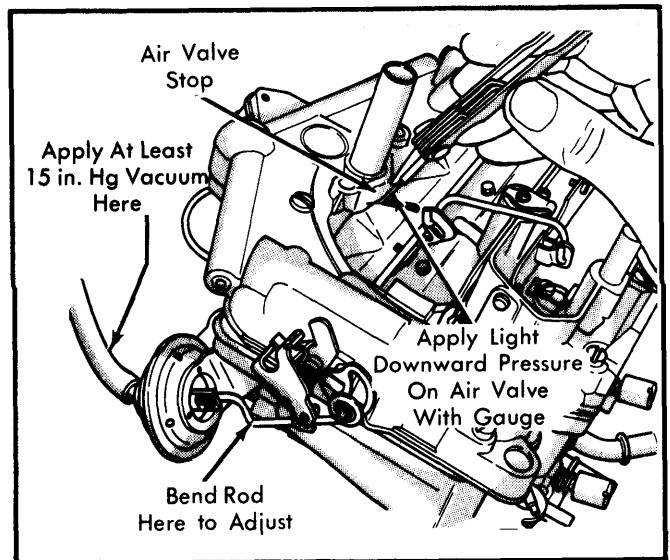

Fig. 8 Adjusting Choke Diaphragm Connector Rod
- 1) Make sure diaphragm is securely mounted to carburetor. Using an outside vacuum source, apply at least 15 in. Hg vacuum to diaphragm. Make sure diaphragm stem is fully seated. See Fig. 8.